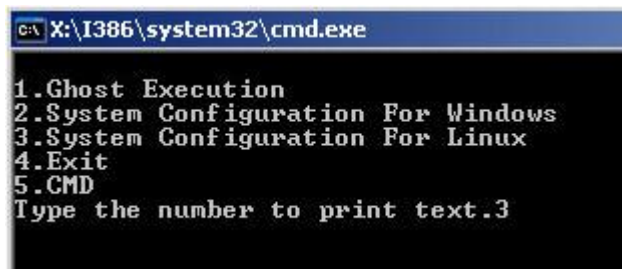

Figure B-20: System Configuration for Linux
Step 4: Build-up recovery partition. Press any key to boot from the recovery CD. It will take a while to launch the recovery tool. Please be patient. When the recovery tool setup menu appears, type <3> and press <Enter> (**Figure B-20**). The Symantec Ghost window appears and starts configuring the system to build-up a recovery partition. After completing the system configuration, press any key to reboot the system. Eject the recovery CD.